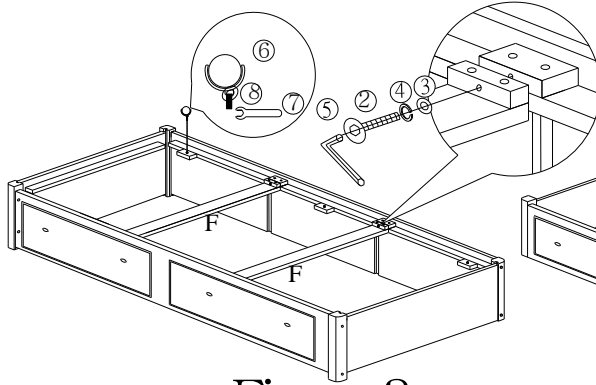
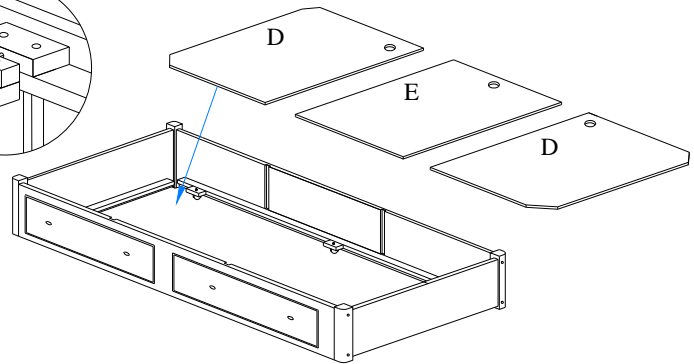

Figure 3
Figure 4
3. See Figure 3, turn the whole unit upside down. Attach two **Cross Rails (F)** using **Lock washer (4), flat washer (3), Bolts (2)** to the cleats of front and back panel, and tighten with **Spanner (5)**.
4. Install the **Swivel Casters (6)** and **Flat Washers (8)** into block of **Front (A) and Back panel (B)** and use the **Wrench (7)** to tighten them.
5. See Figure 4: Turn the unit right side up and insert three bottom panels (D, E)